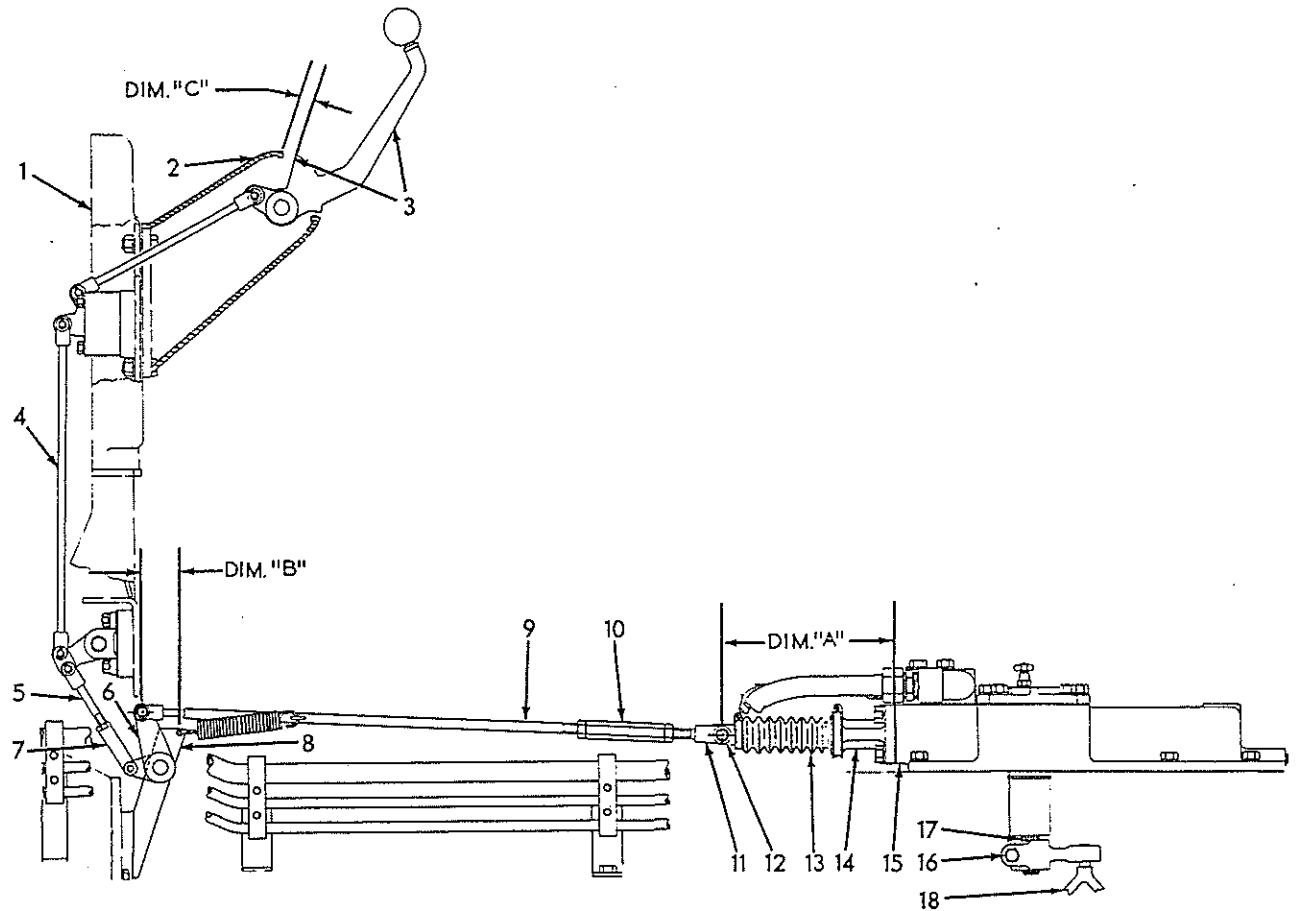

Fig. 23 -- HD11 B (Eff. S/N 10001) Steering Control Linkage
Refer to Fig. 23 and push spool valve (12) solidly against piston in control valve (15); be certain spool and piston are pushed to rear as far as possible, to take all slack out of actuating lever (16) and throwout yoke (18).
Measure distance from front machined face of control valve (15) to center of hole in front end of spool valve (12); this measurement must be 8-15/16" + or - 7/16" (refer to Fig. 23, DIM. "A").
Refer to Fig. 23; hold spool against piston and connect control rod (9) to spool (12); adjust length of control rod by turning adjusting nut (10) to obtain DIM. "B" (1-1/8" + or - 1/32") from center of yoke pin to center of spring attaching hole in bracket (8).
Subsequent adjustments for free travel (DIM. "C") should be made when free travel diminishes to 1/4"; subsequent free travel adjustments are made by turning adjusting nut, Fig. 23 (10) to shorten control rod (9).